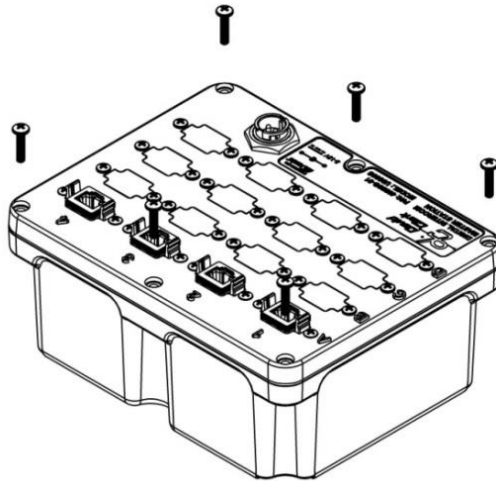

Figure 11.1 Main Cover Assembly
- ☐ Remove the six main screws on the Master Station enclosure (see Fig. 11.1)
2. Remove the six main cover screws (**Figure 11.1**).
4. Place entire assembly back into enclosure bottom (**Figure 11.1**).